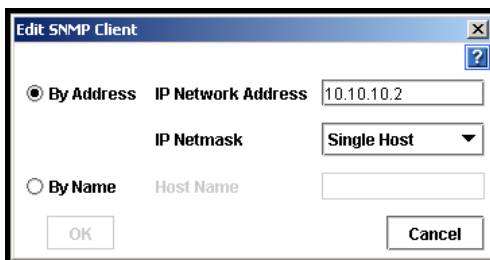

Figure 116. Editing SNMP Client from the Access Control List
2. Click Edit. The Edit SNMP Client window opens, shown in Figure 116.